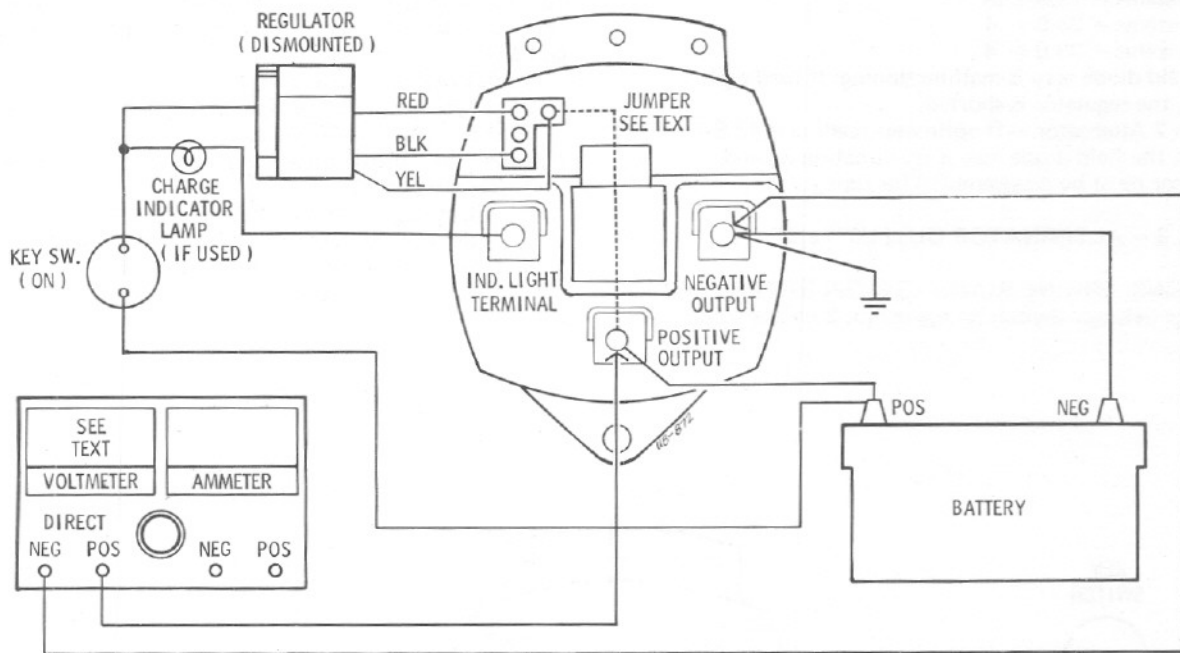

FIG. 16 VERSION 2 – OPEN REGULATOR TEST
- If field diode test o.k., perform open regulator test, see Figure 16.
**VERSION NO. 2 REGULATOR** – Connect jumper from positive output terminal on the alternator to the field terminal (grn. wire) on the alternator terminal board, Figure 16.